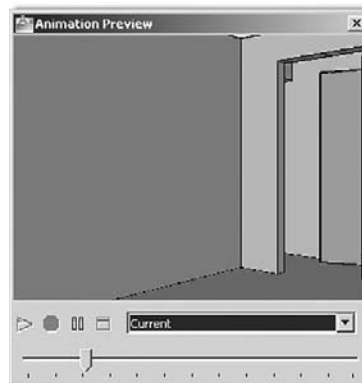

FIGURE 29.26
- Step 4.** Finally, select the Visual Style, Format, and Resolution and press Preview.... A preview window appears and runs through the animation, as seen in Figure 29.26.